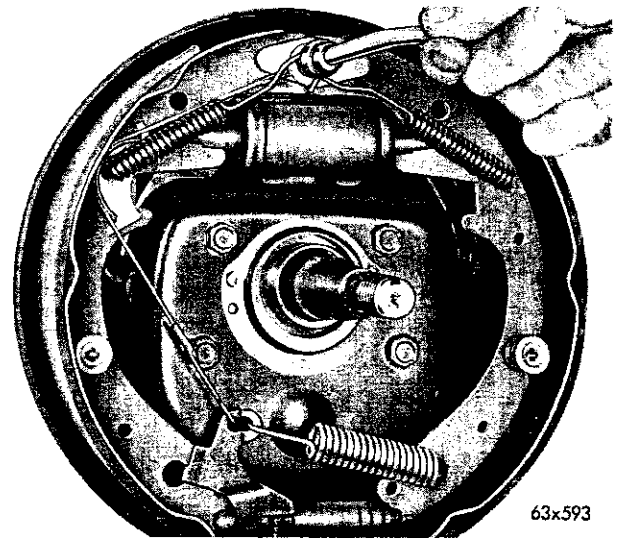

Fig. 4—Removing Brake Shoe Return Spring
(1) Using Tool C-3785 remove the brake shoe return springs, as shown in Figure 4.
- (1) With the vehicle elevated on a hoist, jack or suitable stand use Tool C-845 and remove the hub and drum.
- (2) Using Tool C-3785 remove the brake shoe return springs, as shown in Figure 4.